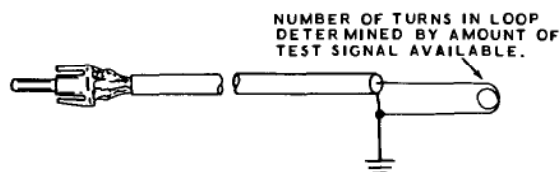

Figure 39
- () For inductive coupling, connect a small loop of wire between the center conductor and shield at the open end of the coaxial cable. See Figure 39. The number of turns you will need in the loop will be determined by the amount of test signal available.